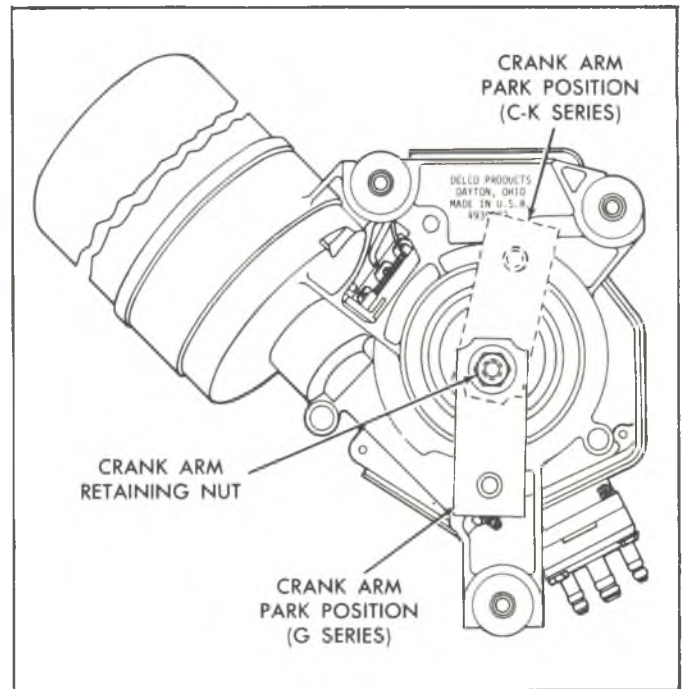

Fig. 25--Crank Arm in PARK Position
3. Clamp crank arm in vise and loosen crank arm retaining nut. Remove nut and crank arm (fig. 25).
1. Operate wiper gear to park position (fig. 25).
2. Position crank arm on gear shaft flats according to position shown in Figure 25.